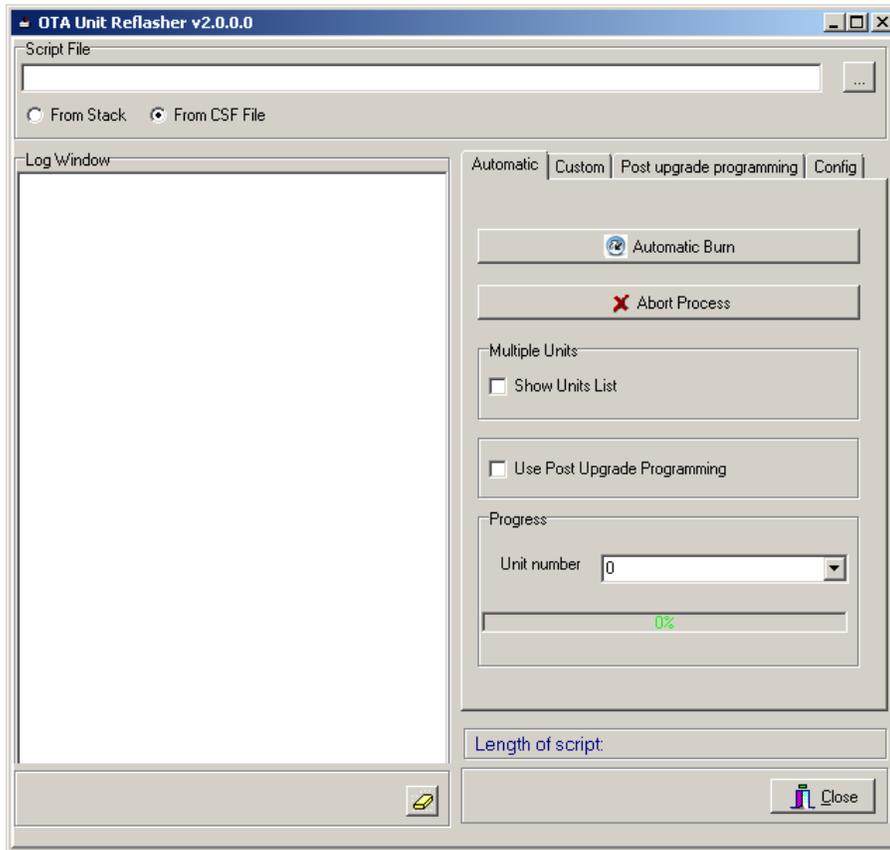

Figure 21: OTA Unit Reflasher
1. Select the **Reflasher** checkbox in the **Programming** tab to display the OTA Reflasher Unit window, as shown in Figure 21.